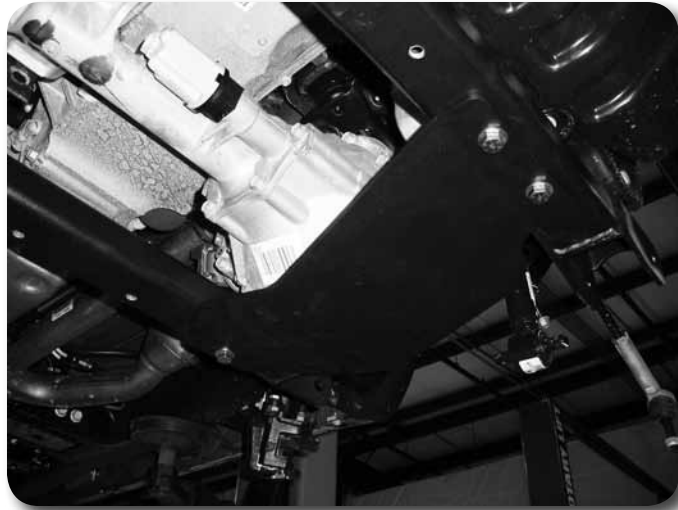

Figure 22
39. Attach the new differential skid plate to the front and rear crossmembers with $\frac{1}{2}$ " x 1-1/4" bolts and $\frac{1}{2}$ " SAE washers. The skid plate mounts to the rear crossmember with one bolt and washer **Figure 22**. The skid plate mounts to the front crossmember with two bolts and washers. Use Loctite on all skid plate bolts. Leave hardware loose.